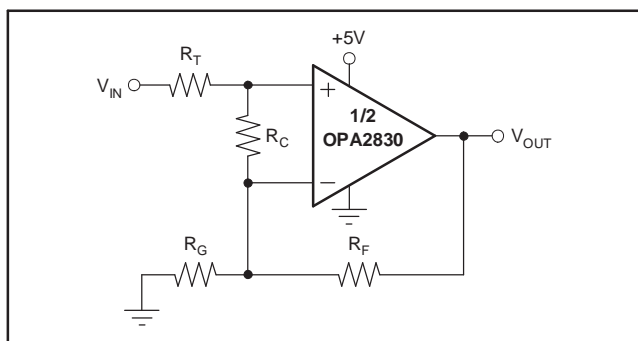

Figure 77. Compensated Noninverting Amplifier
Figure 77 shows a noninverting amplifier that reduces peaking at low gains. The resistor  $R_C$  compensates the OPA2830 to have higher Noise Gain (NG), which reduces the AC response peaking (typically 4dB at  $G = +1$  without  $R_C$ ) without changing the DC gain.  $V_{IN}$  needs to be a low impedance source, such as an op amp.
Frequency response in a gain of +2 may be modified to achieve exceptional flatness simply by increasing the noise gain to 3. One way to do this, without affecting the +2 signal gain, is to add a 2.55kΩ resistor across the two inputs, as shown in Figure 77. A similar technique may be used to reduce peaking in unity-gain (voltage follower) applications. For example, by using a 750Ω feedback resistor along with a 750Ω resistor across the two op amp inputs, the voltage follower response will be similar to the gain of +2 response of Figure 71. Further reducing the value of the resistor across the op amp inputs will further dampen the frequency response due to increased noise gain. The OPA2830 exhibits minimal bandwidth reduction going to single-supply (+5V) operation as compared with ±5V. This minimal reduction is because the internal bias control circuitry retains nearly constant quiescent current as the total supply voltage between the supply pins is changed.
The criterion for setting this  $R_S$  resistor is a maximum bandwidth, flat frequency response at the load. For a gain of +2, the frequency response at the output pin is already slightly peaked without the capacitive load, requiring relatively high values of  $R_S$  to flatten the response at the load. Increasing the noise gain will also reduce the peaking (see Figure 77).